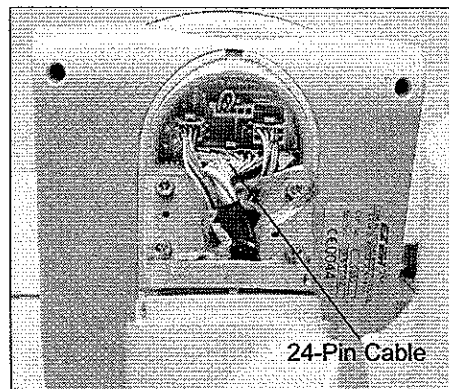

Figure 4-22a: Controller PCB
1. Remove the Injector Controller Cable Cover (see Section 5.4.1 – Replacing the Injector Controller Cable Cover) and disconnect the 24-pin connector from the back of the Controller PCB (see Figure 4-22a).